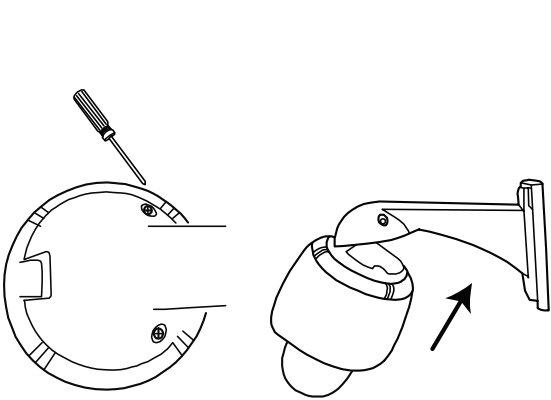

Figure 1
- Step 1: Remove the two screws on the bracket. (Please refer to *Figure 1*)